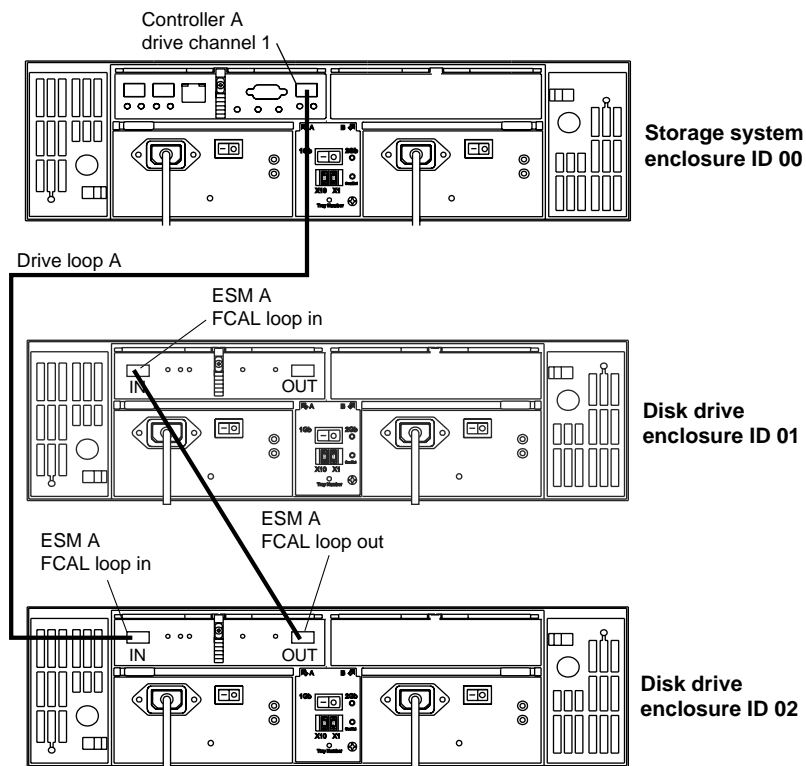

Figure 5-3 Single Controller With Multiple Drive Enclosures Cabling Example
- 3. In a single-controller configuration additional drive enclosures can be connected by attaching a cable between the ESM loop A OUT and ESM FCAL loop IN of the additional drive enclosure. See Figure 5-3 for an example.